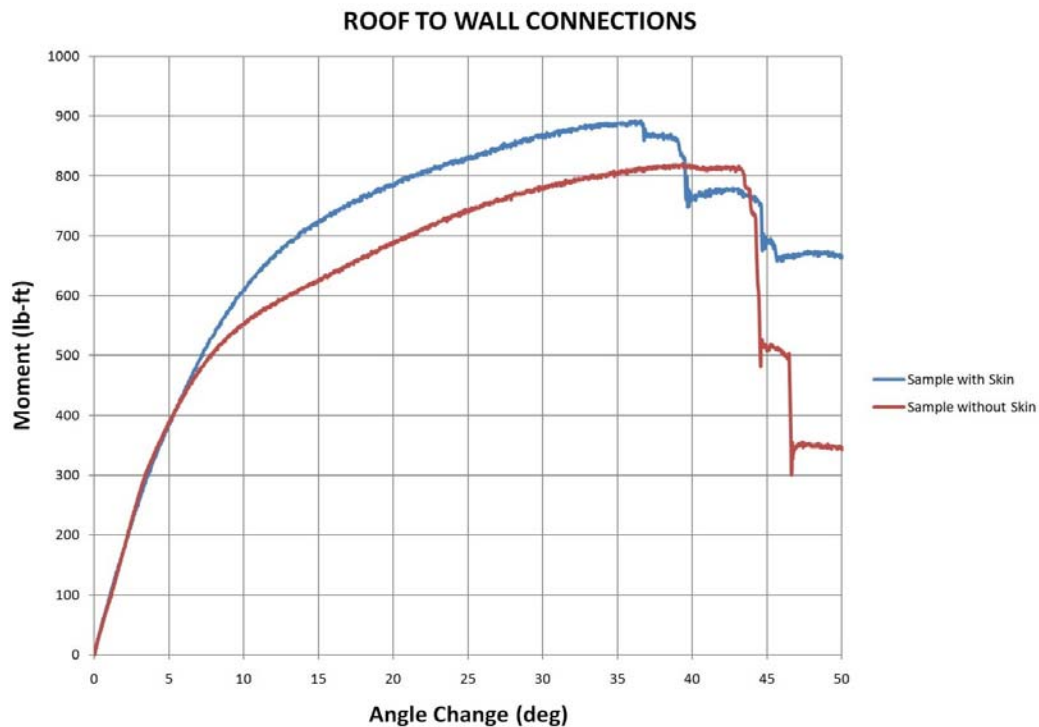
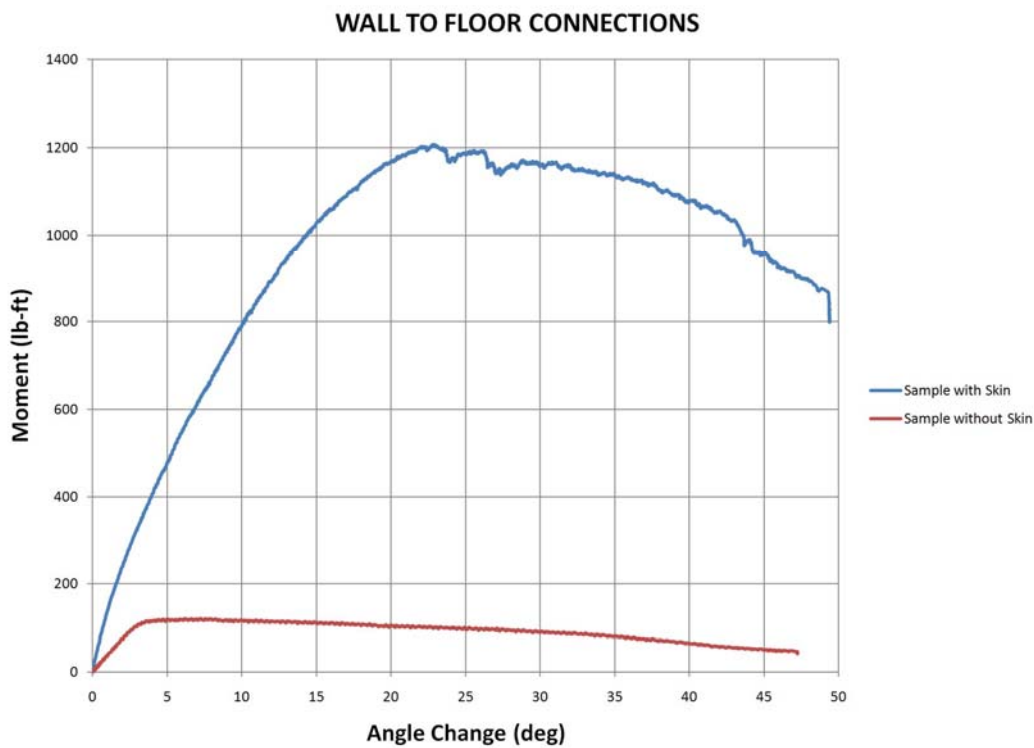

Figure 12: Experimental moment capacity of roof to wall connections.
Figure 15: Experimental moment capacity of wall to roof connections.
Using data acquired during the test, a graph showing the change in angle versus the applied moment is developed, which is a useful measure of the strength of a connection (compare Figure 12 and Figure 15).
Using data recorded with a data acquisition system, Figure 12 plots the experimental moment resisting capability of the two roof to wall connection samples tested vs. their change in angle. The maximum moment capacity for the skinned and shelled connection sample was 892 lb-ft (1,209 Nm) and 818 lb-ft (1,109 Nm) for the skinless sample. It also shows that the fiberglass shell contributes a slight strength increase to the roof to wall connection as it appears to help distribute forces more evenly along the cantrail as well as to brace the cantrail. This slightly different load path to the cantrail gave an increase in ultimate moment resisting capability of approximately 74 lb-ft (100 Nm).
Figure 15 presents the experimental moment resisting capabilities of the two wall-to-roof connection samples tested. The maximum moment capacity for the skinned connection sample was 1,190 lb-ft (1,613 Nm) and 119 lb-ft (161 Nm) for the skinless sample. In order for the sample with skin and flooring to pivot about the lines welds, it must crush the flooring, which attributed to the 1,071 lb-ft (1,452 Nm) increase in ultimate moment resisting capability. The sample without skin or flooring resisted the experimentally applied moment solely with the three single sided line welds. Pictured in Figure 14 is the damage done to the skin after the testing of the sample. Contrary to what Figure 14 appears to show, the skin on the sample provides minimal strength increase to the connection as it primarily provides another load path to the cantrail, which doesn't influence the crushing of the flooring.
- The tests revealed weak performance of the skinless wall to floor connection (see Figure 15)